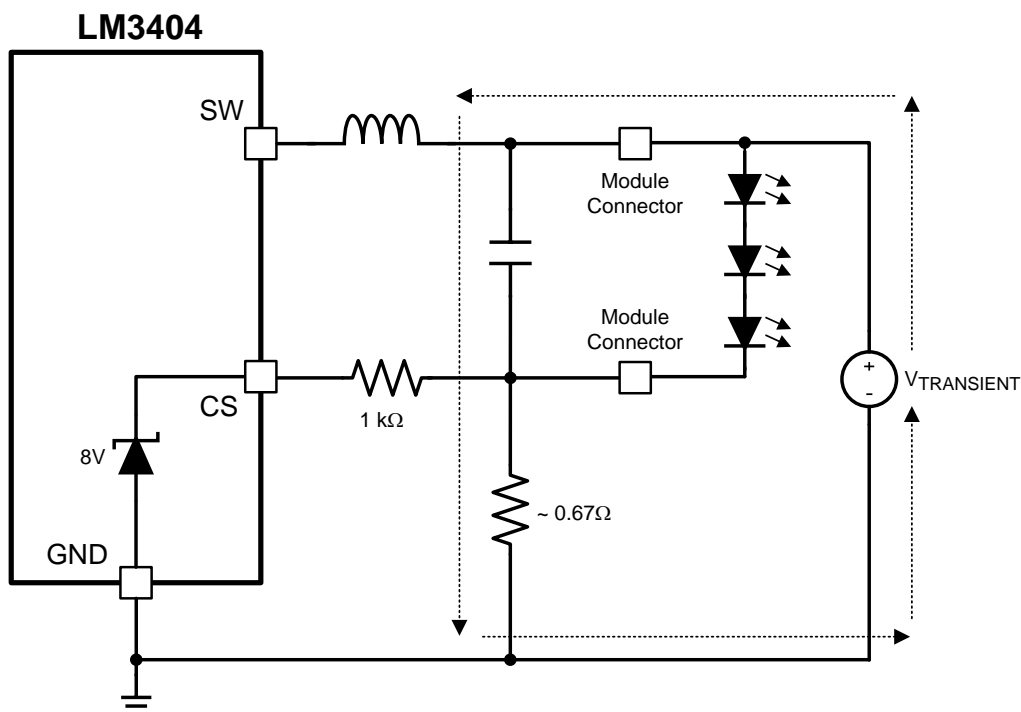

Figure 22. CS Pin, Transient Path With Protection
When hot swapping in a load (that is, test points, load boards, LED stack), any residual charge on the load will be immediately transferred through the output capacitor to the CS pin, which is then damaged as shown in Figure 22. The EOS event due to the residual charge from the load is represented as $V_{\text{TRANSIENT}}$.
From measurements, we know that the 8-V ESD structure on the CS pin can typically withstand 25 mA of direct current (DC). Adding a 1-kΩ resistor in series with the CS pin, shown in Figure 22, results in the majority of the transient energy to pass through the discrete sense resistor rather than the device. The series resistor limits the peak current that can flow during a transient event, thus protecting the CS pin. With the 1-kΩ resistor shown, a 33-V, 49-A transient on the LED return connector terminal could be absorbed as calculated by: